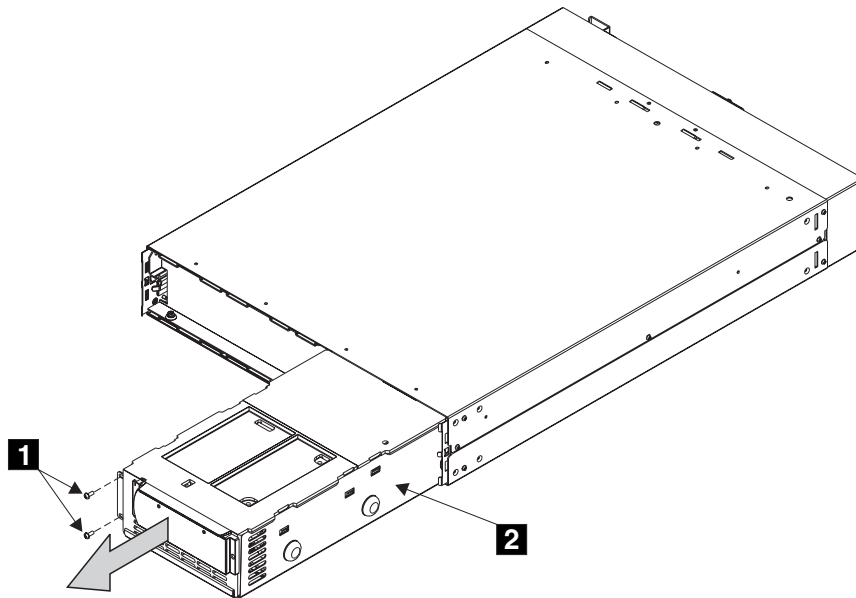

Figure 120. Removing the uninterruptible power supply electronics assembly
- a. Remove the two screws **1** (see Figure 120).